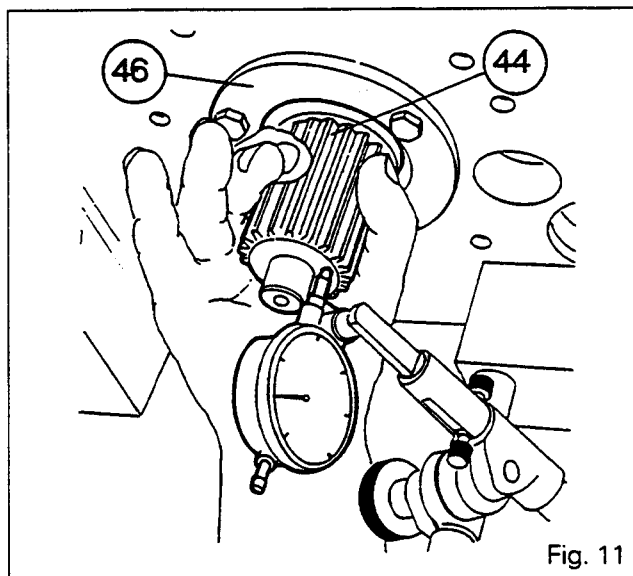

Fig. 11
34. Position a dial gauge on the end of the shaft (44) (Fig. 11).